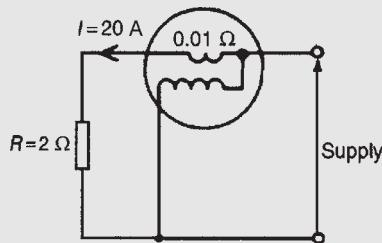

Figure 10.13
Problem 6. (a) A current of 20 A flows through a load having a resistance of 2Ω . Determine the power dissipated in the load. (b) A wattmeter, whose current coil has a resistance of 0.01Ω is connected as shown in Fig. 10.13. Determine the wattmeter reading.
2. (a) A current of 15 A flows through a load having a resistance of 4Ω . Determine the power dissipated in the load. (b) A wattmeter, whose current coil has a resistance of 0.02Ω is connected (as shown in Fig. 10.13) to measure the power in the load. Determine the wattmeter reading assuming the current in the load is still 15 A.